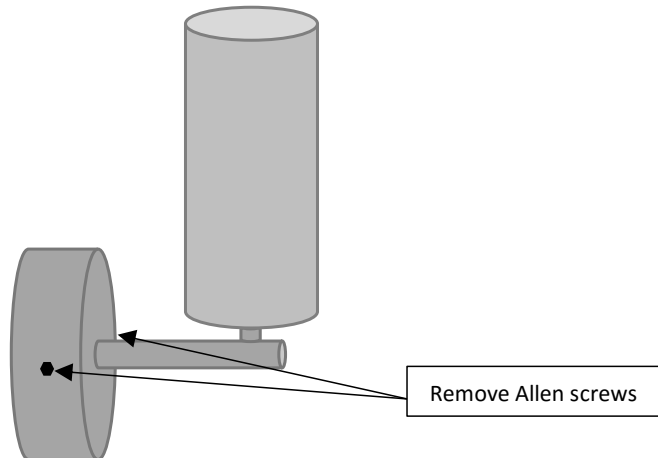

Fig 1 (CWL1 shown in image)
- Using an Allen key, remove base mounting bracket (see Fig 1)